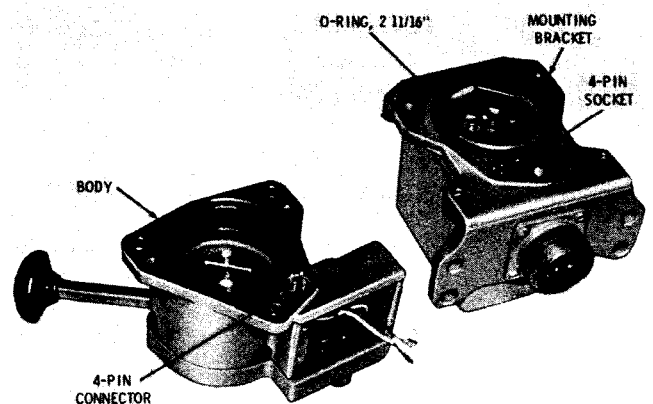

Fig. 4-17. Shift tower body section and switch section separated
(15) Install the 4-pin connector (with four leads assembled) into the shift tower body (fig. 4-17). Push the connector into the mounting face of the body until it is flush with the adjacent area. Note that there is a pro-